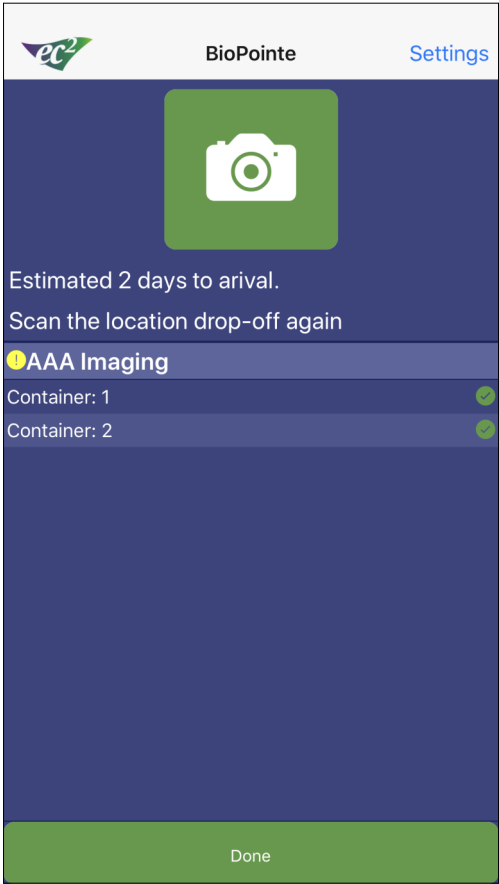

Fig 9
- e. Scan facility barcode or click Done at the location to finish the delivery tracking process. See Fig 9